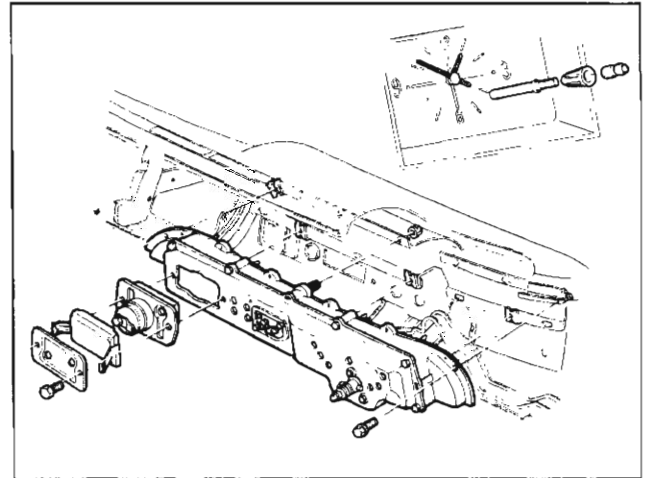

Fig. 56—Instrument Cluster
Removal—Refer to Figure 56
1. Remove clock set shaft (fig. 56).
3. Remove wiper motor and disconnect special clip retaining transmission drive arm to motor crank arm (Fig. 56). See Wiper Motor Removal.